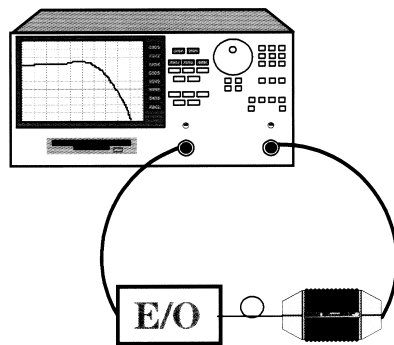

Figure 2-1. Connections for Source Measurement
- 2 Connect the test device to the Agilent 8702D as shown in Figure 2-1.